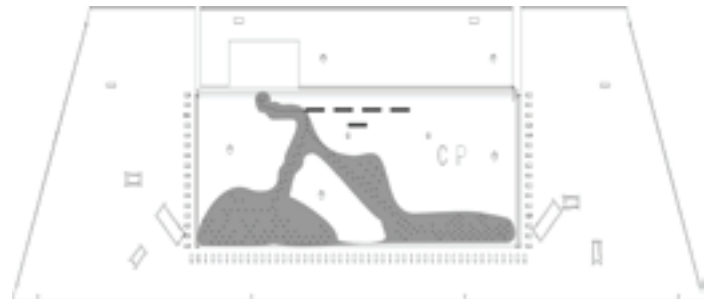

Figure 3
After placing logs into position, place dime-sized pieces of glowing embers over the burner surface. A single layer is sufficient; do not over-apply. See **Figure 3**.
**STEP 10.** The log assembly is complete. Place glowing embers over the round ports on the burner as shown in **Figure 3**. Place ember sticks and coals on burner cover. Do not place ember sticks or coals over any burner ports. See **Figure 4**. Replace glass door and barrier screen as mentioned in fireplace manual.